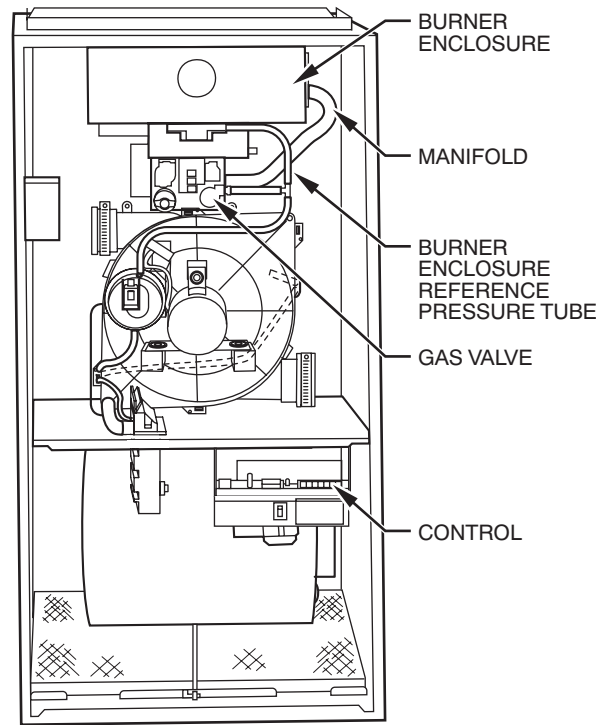

Fig. 34 - Multipoise, Hot-Surface Ignition, Fixed-Speed, Condensing Furnace Component Location (Upflow Orientation Shown)
NOTE: See Fig. 34 for component location in upflow orientation. Reorient component arrangement when furnace is installed in other positions.
7. Remove burner-box pressure tube from gas-valve burner enclosure; reference pressure-tap fitting. (See Fig. 34.)